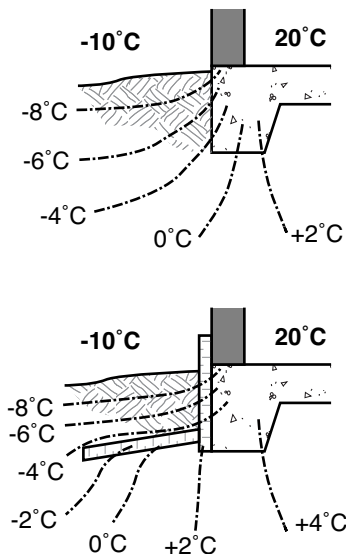

FIGURE 40
- ◆ Provide skirt insulation around the perimeter of the foundation. The effects of skirt insulation on the pattern of isotherms in the soil around a slab-on-ground are illustrated in Figure 40.